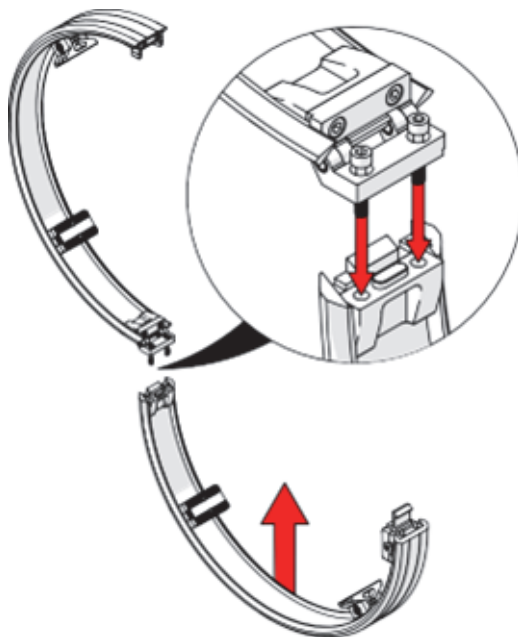

Figure 1-14 Connect the halves
1. Place the two sections of the band together at the hinge (see Figure 1-14 on page 36).